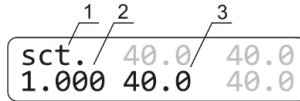

Figure 3. Display in calibration mode: 1. Calibration mode indicator; 2. Calibration coefficient; 3. Temperature with current coefficient
- 6.2 To change the calibration coefficient, hold the **TIME RUN/STOP** key pressed for more than 8 s to activate calibration mode. The calibration coefficient appears on the display (figure 3).
**Note.** Values marked in grey on figures 3 and 4 are not used in calibration and are meant for service engineers.
- 6.3 **Restoring factory settings.** Set 1.000 value using the ▲ and ▼ T, °C keys as shown on fig. 3/1 to restore the factory settings. Press the ►/■ **RUN/STOP** key once to save the changes and exit the calibration mode.
- 6.4.5 Hold the **TIME RUN/STOP** key pressed for more than 8 s to activate calibration mode (figure 3).